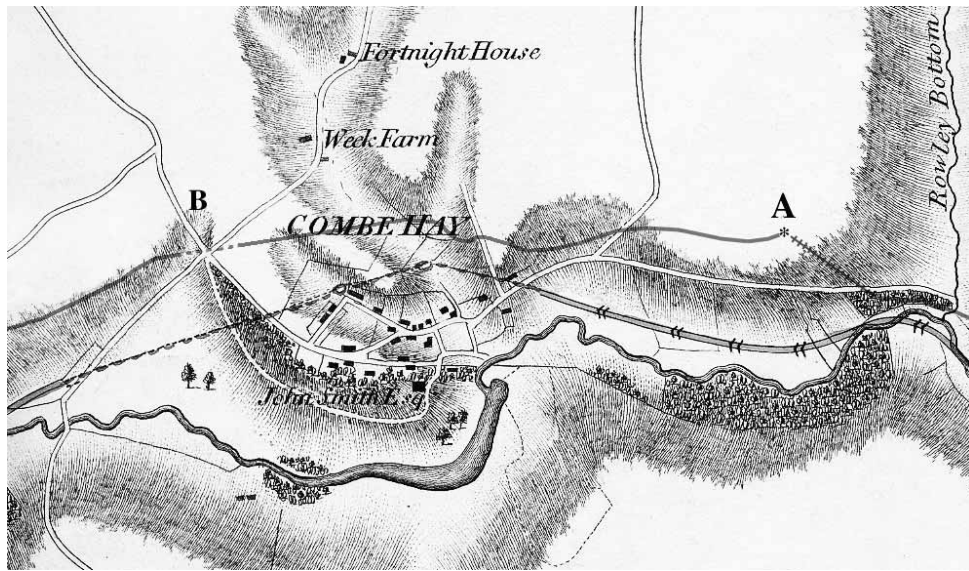

Fig.1 — DETAIL FROM RENNIE'S 1793 MAP AT COMBE HAY
Fig.1 shows the original planned course of the canal with locks at the lower level and the long tunnel (pecked line) avoiding the riverside. The upper line shows the course eventually chosen at a higher level, with a short tunnel at the Combe Hay cross-roads (B), terminating at Blacklands Furlong above Rowley Bottom near A, later site of the Caisson Lock.